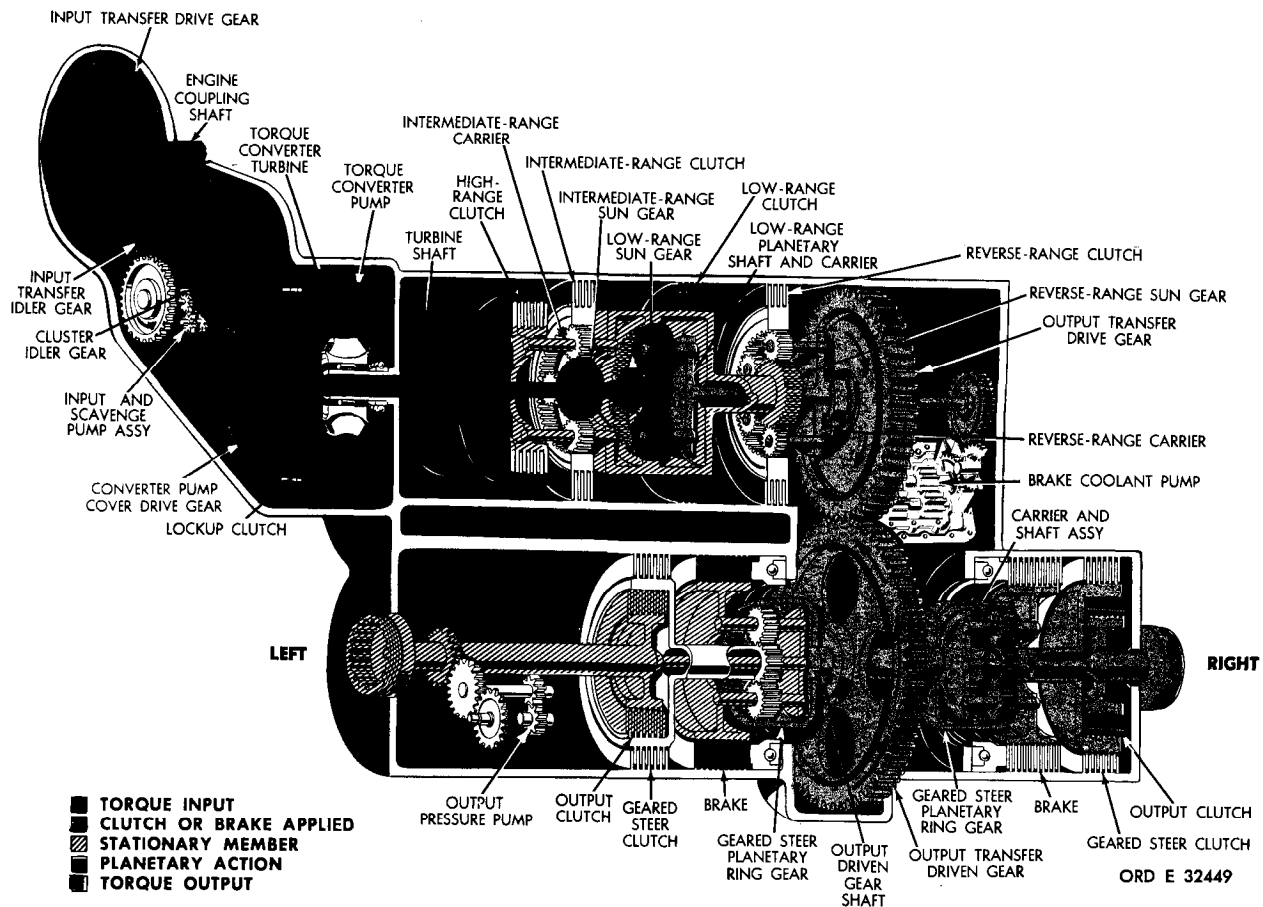

Figure 30. Second-gear, full-left-steer torque path, lockup operation
54. TORQUE PATH - SECOND GEAR, FULL-LEFT STEER, LOCKUP OPERATION (fig. 30)